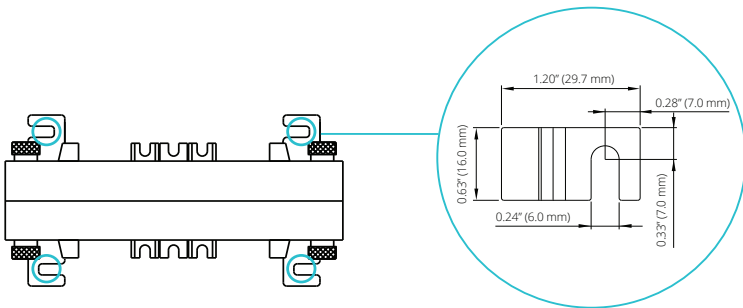

Figure 6 : Top-View of the AcuCt-2031
- Secure the mounting base plate using M5 or M6 screws / bolts through the 6 mm elongated mounting holes and tighten until the current transformer is firmly mounted. Refer to Figure 6 for the mounting clip dimensions and clearance requirements.